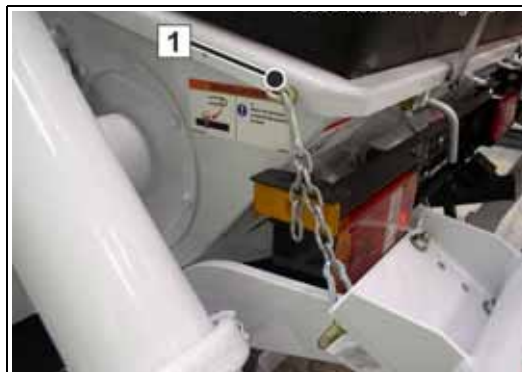

Fig. 58 Chain fastener
- Secure the underride protection using the chain fastener on the left-hand side of the hopper (**Fig. 58**).